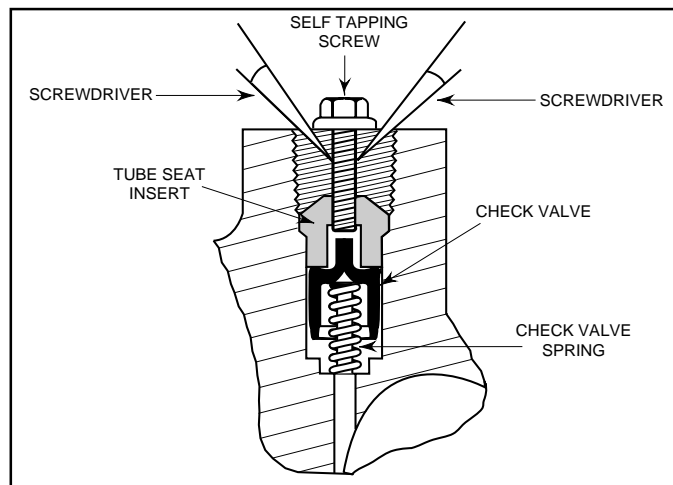

FIGURE 3
3. Inspect for the presence of check valves by probing with a wire through the outlet ports. Tube seats may be removed to replace check valve components. Remove the tube seat inserts, if required, by partially threading a self-tapping screw into each tube seat and using two screwdrivers to pry the seats out of the master cylinder (Figure 3). Remove the residual pressure check valve (if present) and the spring from the outlet(s).